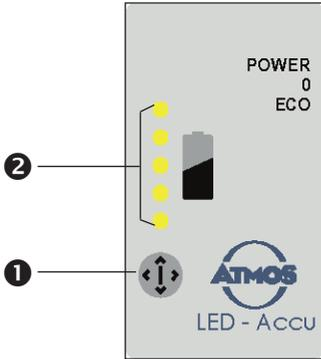

Fig. 5.
- As long as the test button (①, Fig. 5) of the rechargeable LED battery is pressed, the battery capacity is shown for approx. 3 seconds (②, Fig. 5, green LEDs for levels 1...5).
- During the charging process, the current battery capacity is indicated (②, Fig. 5, green LEDs for levels 1...5). The battery is fully charged when all five LEDs go out again.